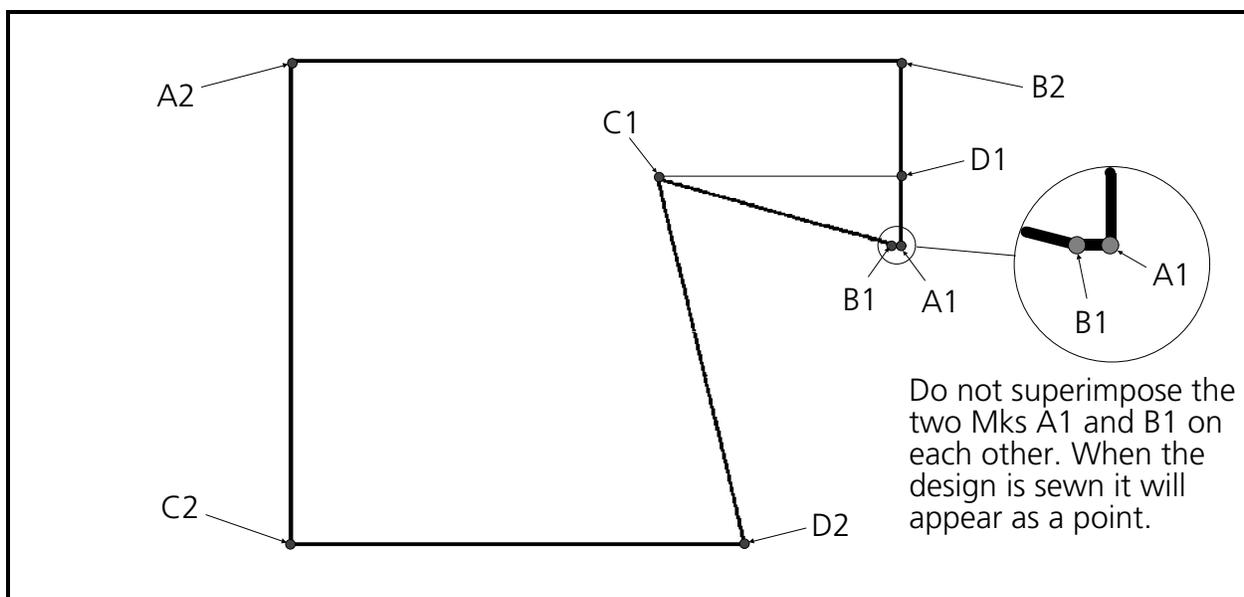

Figure 6-71
- Draw a line between points C1 and D1 as shown in Figure 6-71. This line must be parallel to the top line of the design (A2 to B2 in the illustration).
- At the first of the two fills (the triangle) label the first line "A1-B1" and last line "C1-D1" as shown in Figure 6-71.
- Around the second of the two fills, label the first line A2-B2 and last line C2-D2, also shown in Figure 6-71.